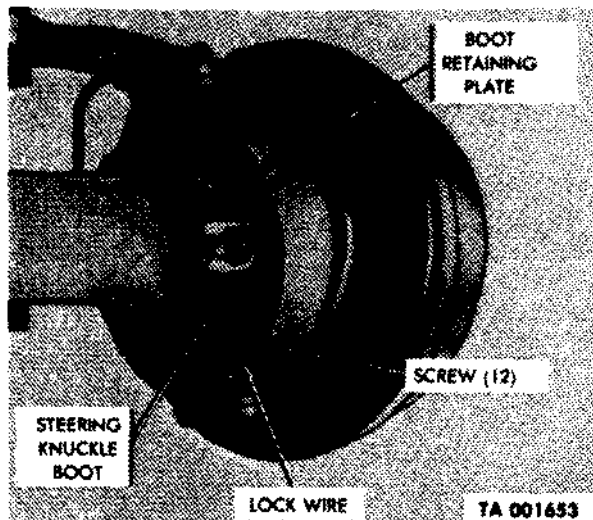
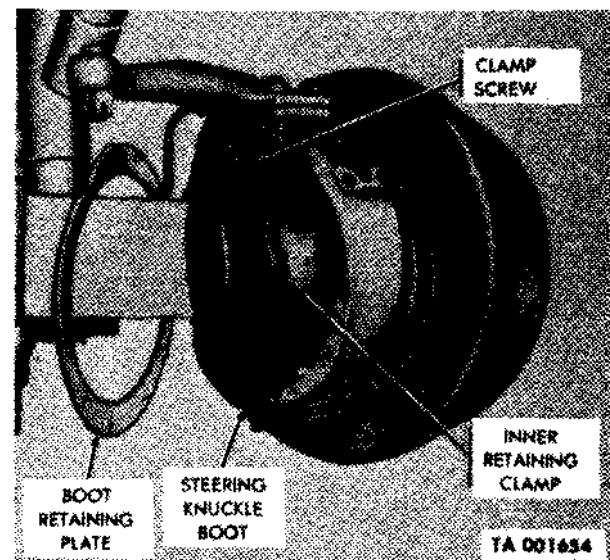

Figure 2-173.1. Steering knuckle boot removal and installation—outer retaining plate.
Figure 2-173.2. Steering knuckle boot removal and installation—inner retaining clamp.
(1) Remove four screws and washers securing boot guard to steering knuckle.
(2) Remove locking wire from 12 screws securing boot retaining plate to steering knuckle and slide plate back on axle housing (fig. 2-173.1).
(3) Pull boot away from steering knuckle to expose inner clamp screw. Remove and discard inner clamp screw. Remove clamp and boot from axle (fig. 2-173.2).
(2) Force inner clamp lip of boot into groove on axle housing. Install inner clamp with screw and nut positioning 1 or 2 inches from zipper. Tighten clamp and make sure lip on boot is well seated in axle groove (fig. 2-173.2).
(3) Lace zipper locks with fine wire (3 laces) near edge of boot and cut off excess zipper at least 1/4 inch from zipper lockwire. Apply sealer cement over exposed zipper and fabric.
(4) Position outer edge of boot on steering knuckle. Install boot retaining plate and secure with 12 screws. Install locking wire (fig. 2-173.1).
(5) Install boot guard and secure with four lockwashers and screws. Torque lower screws to 130-170 lb-ft.